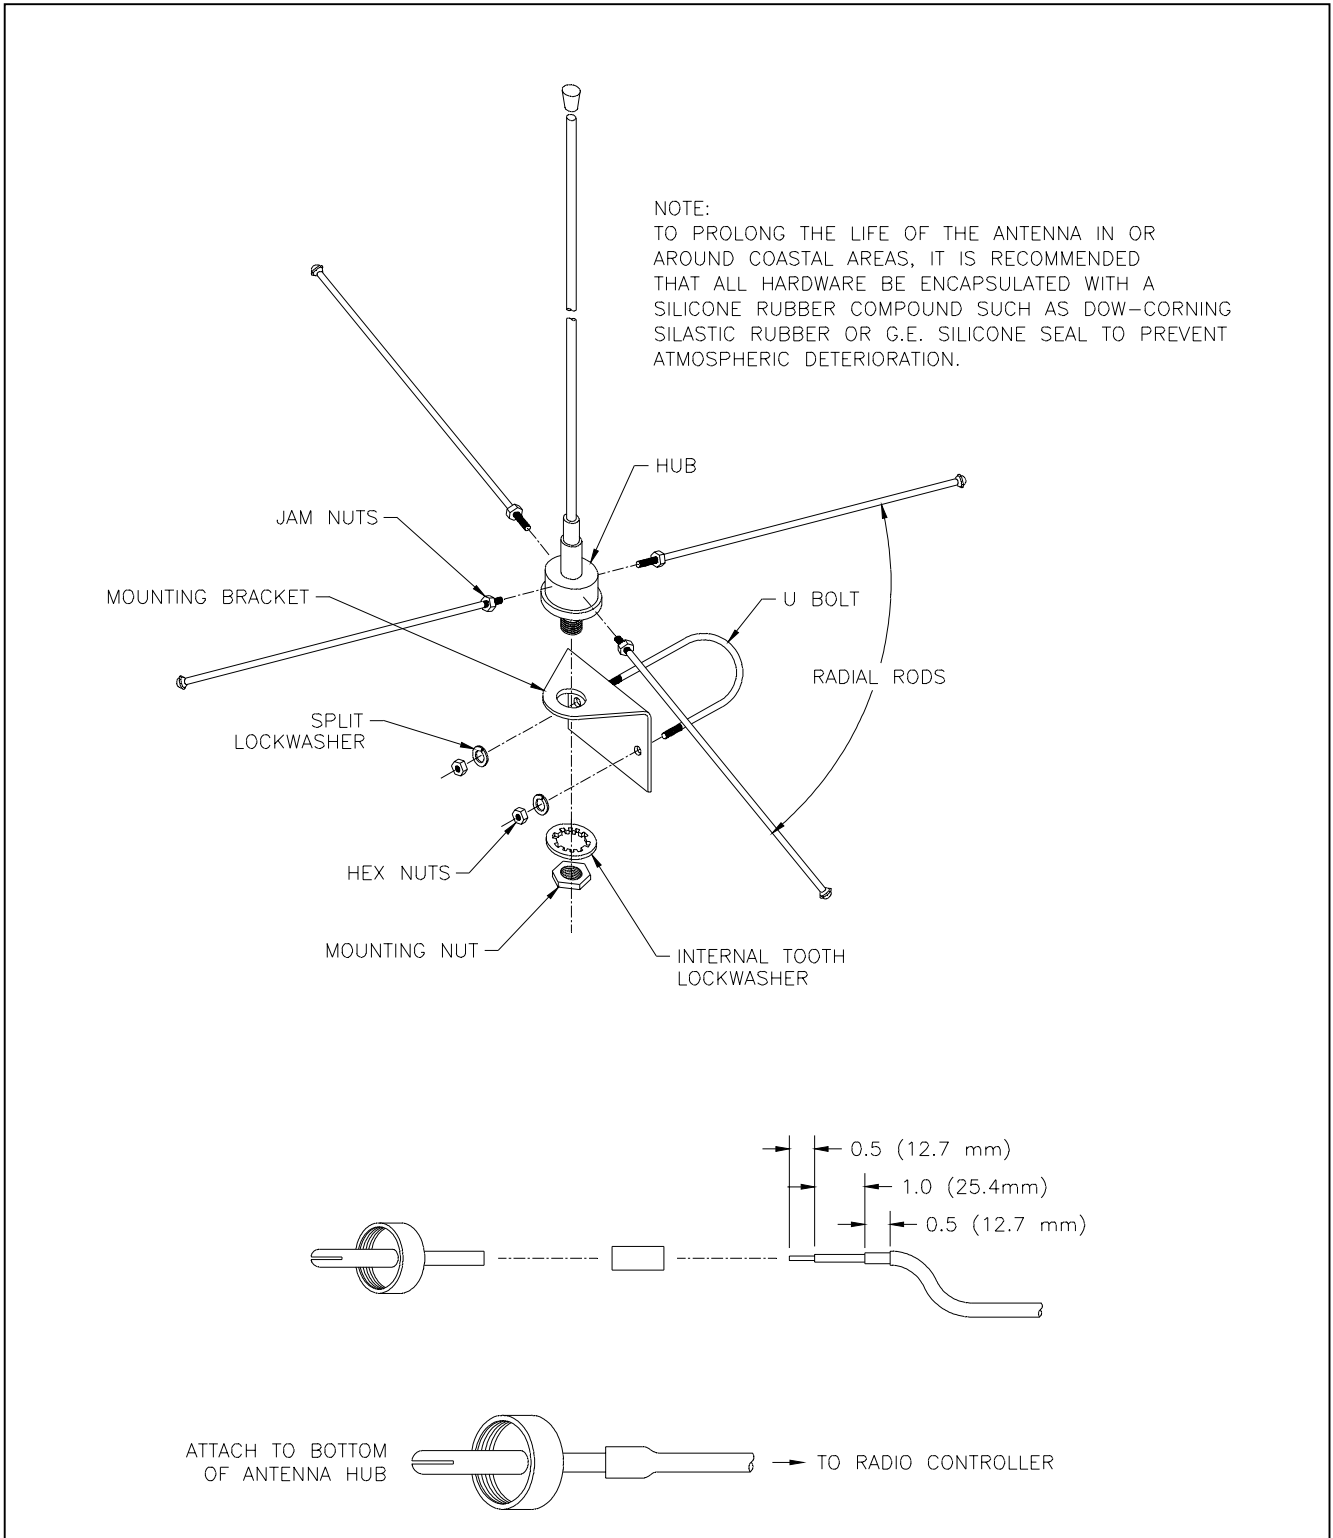

Figure 5. Assembling Antenna
2. Loosen the mounting nut and assemble the radials as shown in Figure 5. Tighten jam nuts against the hub to secure the radials. Retighten the mounting nut.